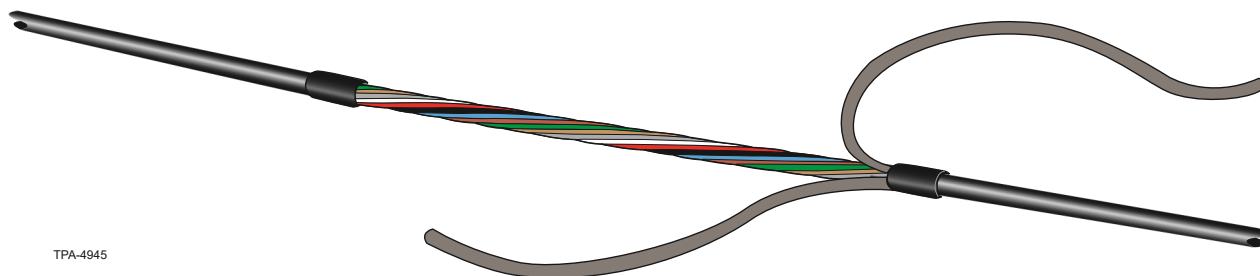

Figure 21
**Step 7:** Flex the cable and pull apart the jacket along the slitting line to peel jacket from cable (Figure 21). Use fingers, needle nose pliers, or sheath knife to pull jacket away from cable. See Figures 4 and 5 on pages 5 and 6.